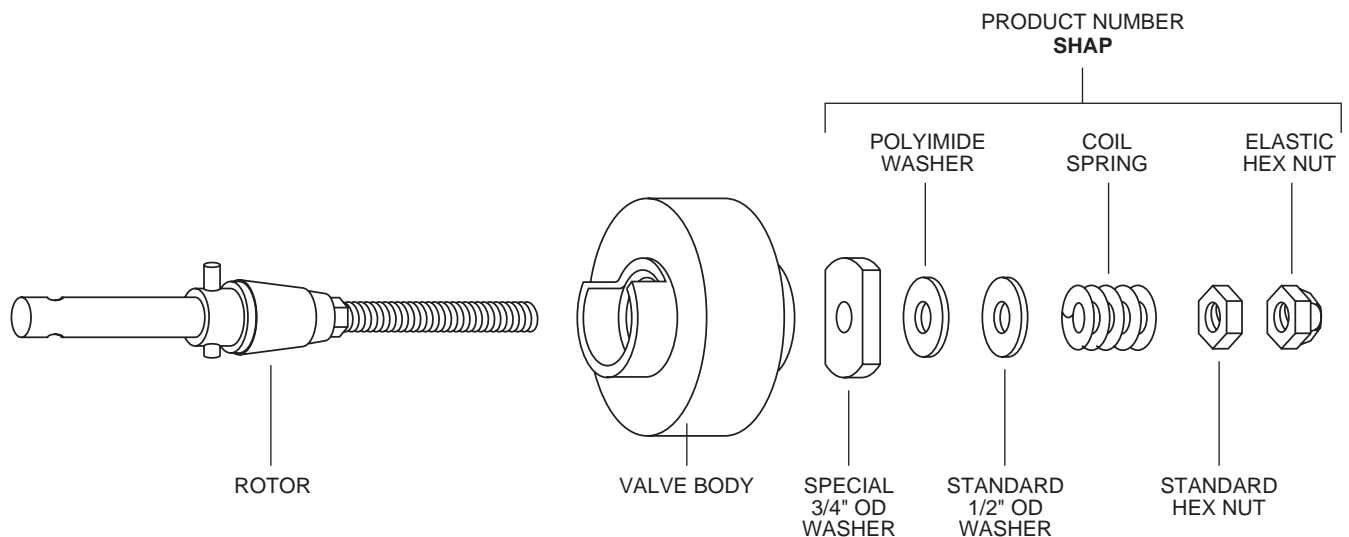

Figure 1: Exploded view of a P or E series valve
1. Using a wrench or nut-driver, loosen and remove the standard and elastic hex nuts from the threaded rotor shaft. (Figure 1)